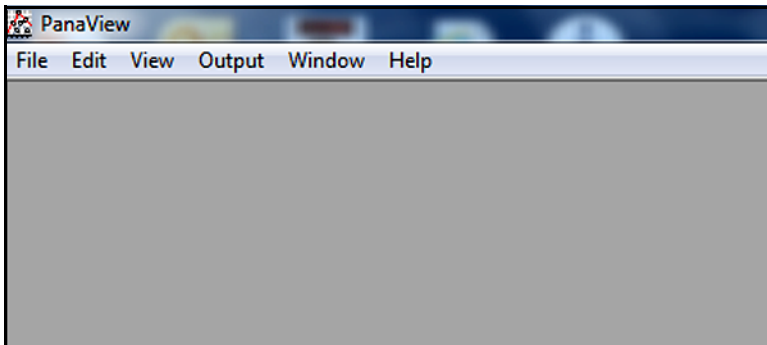

Figure 11: The Basic PanaView Window
2. As shown in *Figure 11* below, the default initial PanaView window contains only the following basic components of the interface (listed from top to bottom):
Note: *To make the image in Figure 11 below more readable on this page, the window was compressed both vertically and horizontally from its actual dimensions.*